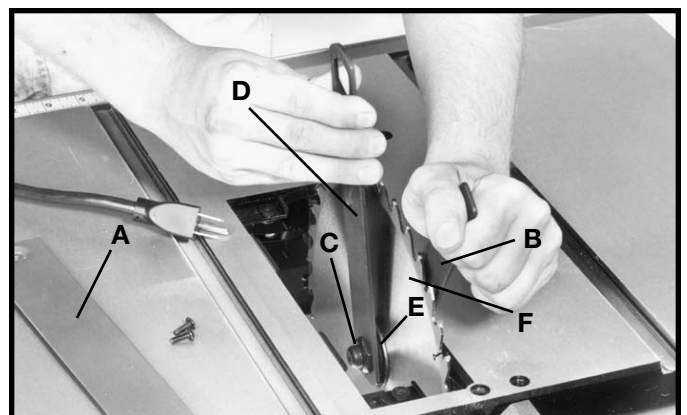

Fig. 53
2. Raise the saw blade to its maximum height and remove the table insert (A) Fig. 53.
3. Using the open end wrench (B) Fig. 53, place open end of wrench on flats on inside blade flange to keep the saw arbor from rotating and remove arbor nut (C) with wrench (D). Turn nut (C) counterclockwise to remove. Remove outside blade flange (E) and saw blade (F).
4. Assemble new blade, making certain teeth of blade are pointing down at the front of the saw table and assemble the outside blade flange (E) Fig. 53, and arbor nut (C). Tighten nut (C) with wrench (D) by turning nut clockwise while holding arbor steady with other wrench (B).